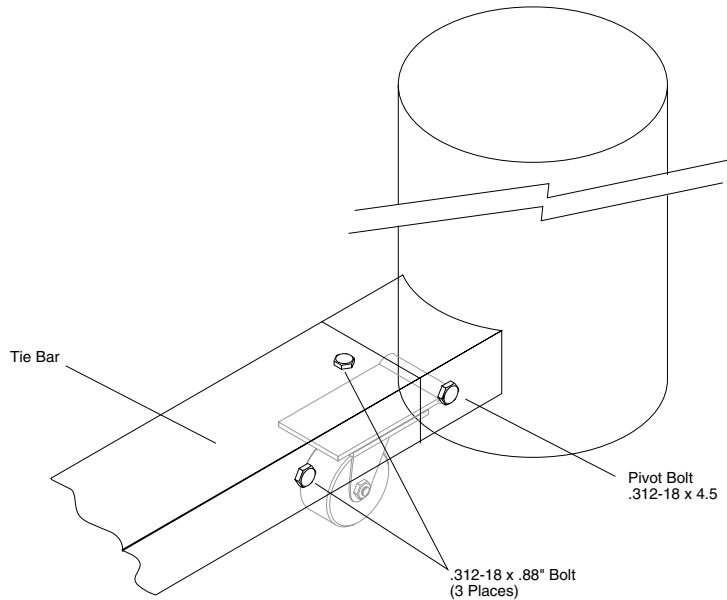

Figure 2.3 Assembling Tie-Bar to the Isolator
3. Return the isolator to its vertical position. Fasten the caster to the attachment bar with a .312-18 x 4.5-inch pivot bolt, lock washer, and nut. Use flat washers on both sides of the attachment bar (see Figure 2.3).
- E. Place the four Tie-Bars over the attachment bars extending from the isolators. Ensure that the bolt holes on the top and side of the Tie-Bars are aligned with the holes in the attachment bars. (Figure 2.3).